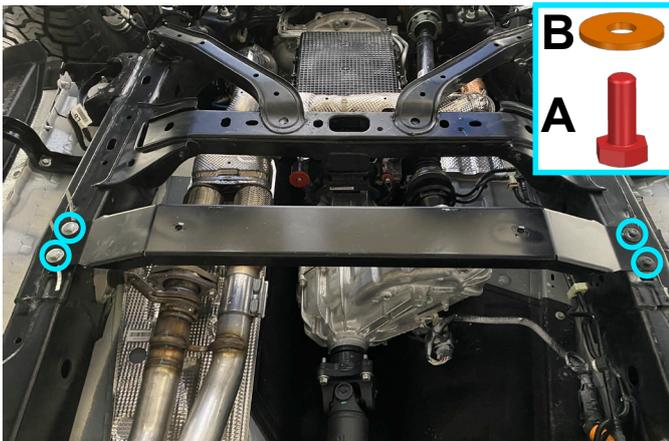

Fig. 3
2. Fix the mount bracket (item 2) to insert nut M10 (item D), using bolts M10x25 (item A) and washers 10 (item B), as shown in fig.3.